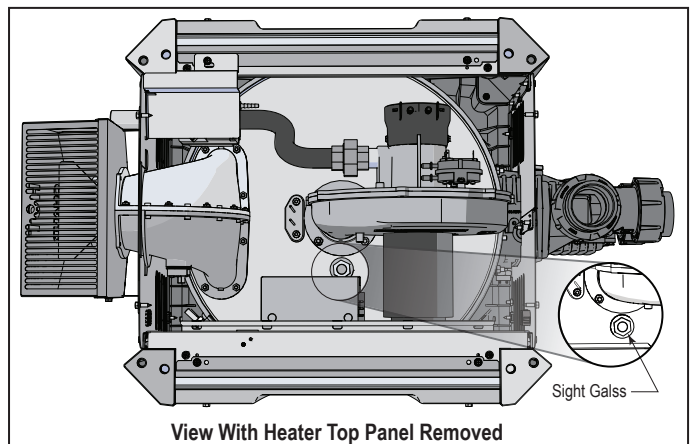

Figure 23. Remove Heater Top to View Sight Glass
- Visually check the main burner flame. Remove the top of the heater to inspect the sight glass. See *Figure 23*.